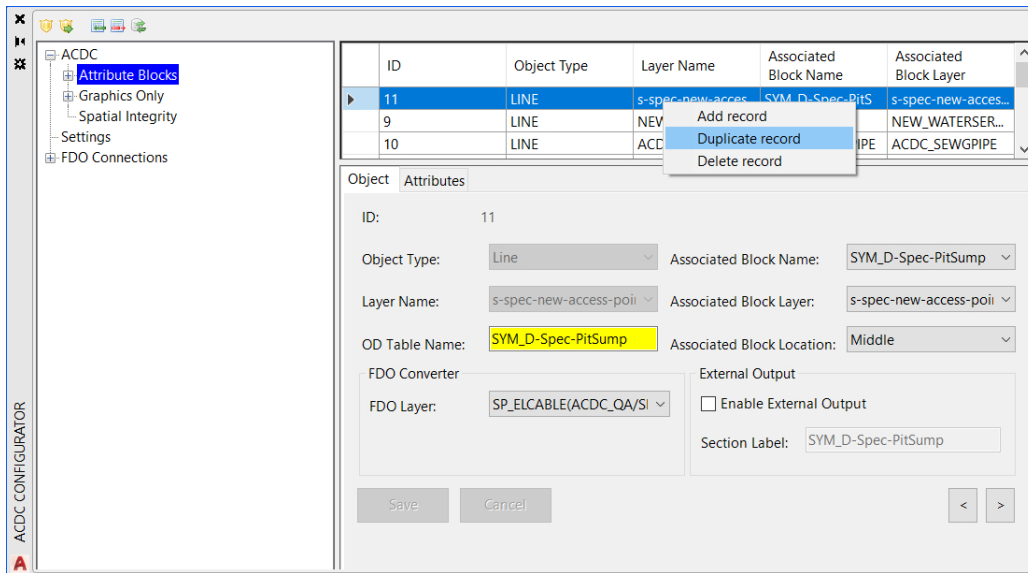

Figure 15 Duplicating Records in the Configurator
- **Polyline:** If the asset is represented as a line entity with two or more series of lines or line segments. For example, a water pipe that consists of multiple line segments. Note that, if an asset can be represented by both lines and polylines, a separate record will have to be defined for each of these object types. Duplicating records in the 'Configurator' is addressed in Figure 15. Duplicating Records in the Configurator.